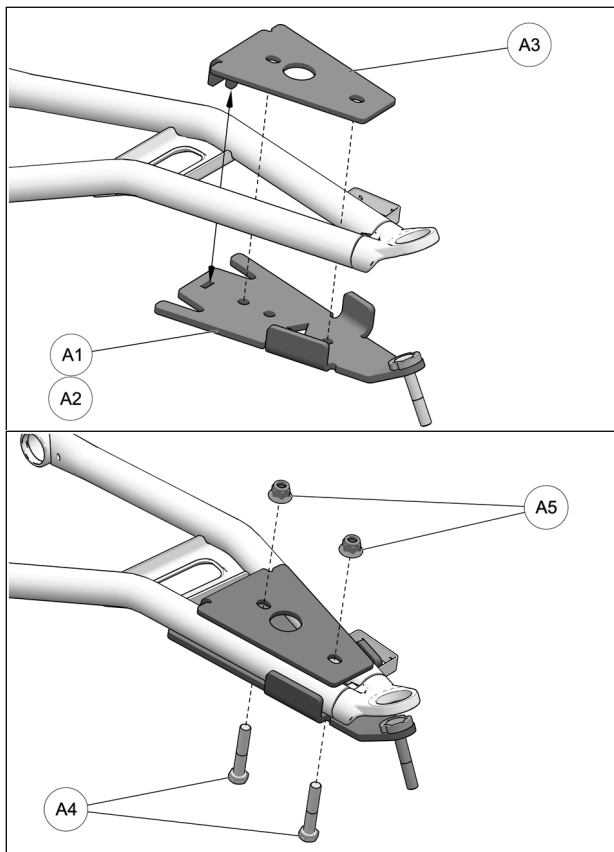

Fig. 14
5. Position bottom part of anchor bracket (A1-A2) assembly under front lower suspension arm, as shown in the figure below. Position bracket cover (A3) over suspension arm and align holes in cover and bottom part. Insert the M10x55mm bolts (A4) from the bottom and secure the two parts together with the nuts (A5) provided. Tighten assembly to 50 N•m [37 lb•ft] of torque. Refer to Fig. 14